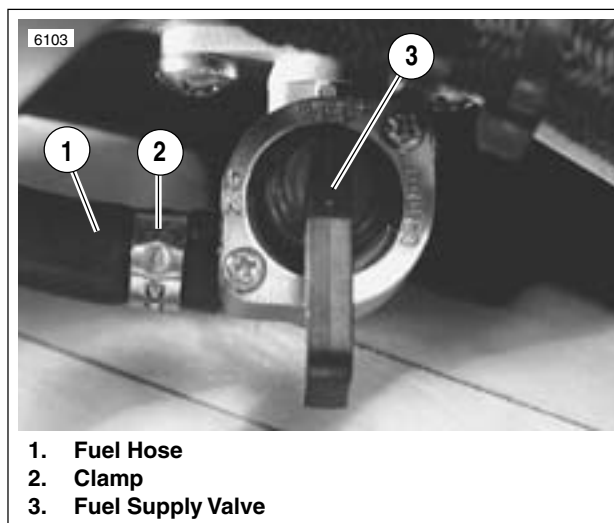

Figure 4-28. Fuel Supply Valve and Fuel Hose
2. See Figure 4-28. Remove fuel hose (1) and clamp (2) from fuel supply valve (3). Discard clamp.
7. See Figure 4-28. Connect fuel hose (1) to fuel supply valve (3) with a **new** clamp (2) and HOSE CLAMP PLIERS \(Part No. HD-41137\).
3. See Figure 4-28. Remove fuel hose (1) and clamp (2) from fuel supply valve (3). Discard clamp.
- See Figure 4-28. Connect fuel hose (1) to fuel supply valve (3) with a **new** clamp (2) and **HOSE CLAMP PLIERS** (Part No. HD-41137).